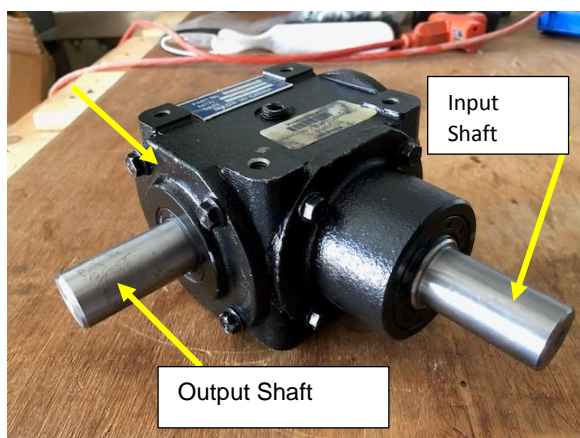

Figure 85
In addition to the seals the bearings can be replaced in the gearbox. There are four tapered roller bearings in the gearbox. There are two bearings on the output shaft and two bearings in the end cap of the input shaft. Figure 85 Note: If the shafts, gears, or housing is damaged the entire gearbox must be replaced.
1. To replace the bearings on the output-shaft remove the four bolts holding the cap. Figure 85
1. To replace the input-shaft bearings remove the four bolts retaining the input shaft end cap. Figure 85